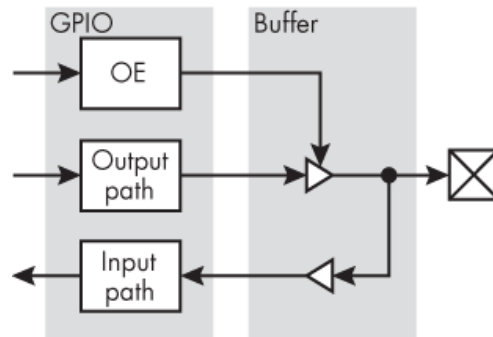
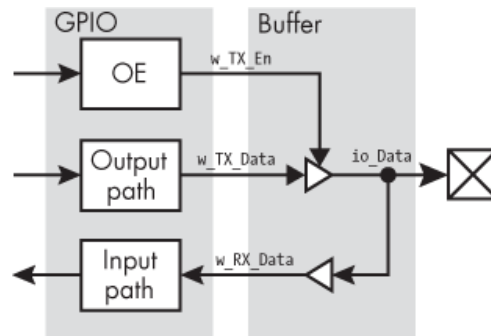

Figure 11-1: A simplified GPIO block diagram
Figure 11-2: A labeled bidirectional interface
soon, they even allow you to toggle a pin between input and output while the FPGA is running. Figure 11-1 shows a simplified block diagram of a GPIO pin interface on an Intel FPGA, to illustrate how a buffer serves as an intermediary between the pin and the internal FPGA logic.
Let's look at how to code a bidirectional pin using Verilog or VHDL. As you examine this code, refer to Figure 11-2 to see how the signals in the code match the block diagram from Figure 11-1:
We declare the bidirectional pin (`io_Data`) with the keyword `inout` in both Verilog and VHDL ❶. At this point we can imagine that we're at the pin, as indicated by the label `io_Data` in Figure 11-2. We'll need to map this signal to one of the FPGA's pins in our physical constraints file. For the input functionality, we simply use an assignment to drive `w_RX_Data` with the data from the pin ❷. On the output side, we selectively enable the output buffer using the signal `w_TX_En` ❸. We use the ternary operator in Verilog or a conditional assignment in VHDL. The data driven onto `io_Data` will either be `w_TX_Data` or high impedance (indicated by `1'bZ` in Verilog or `'Z'` in VHDL), depending on the state of the output enable signal (`w_TX_En`). This code pattern is very common for bidirectional data. Synthesis tools are smart enough to recognize it and infer an I/O buffer.